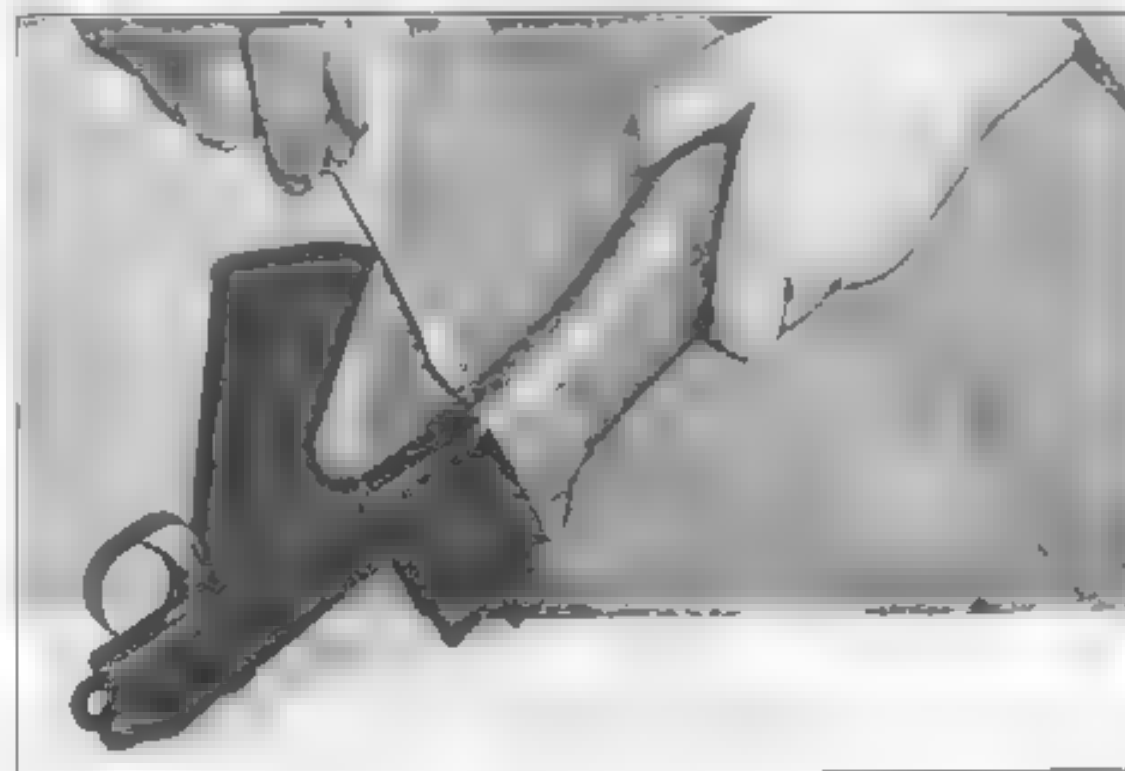
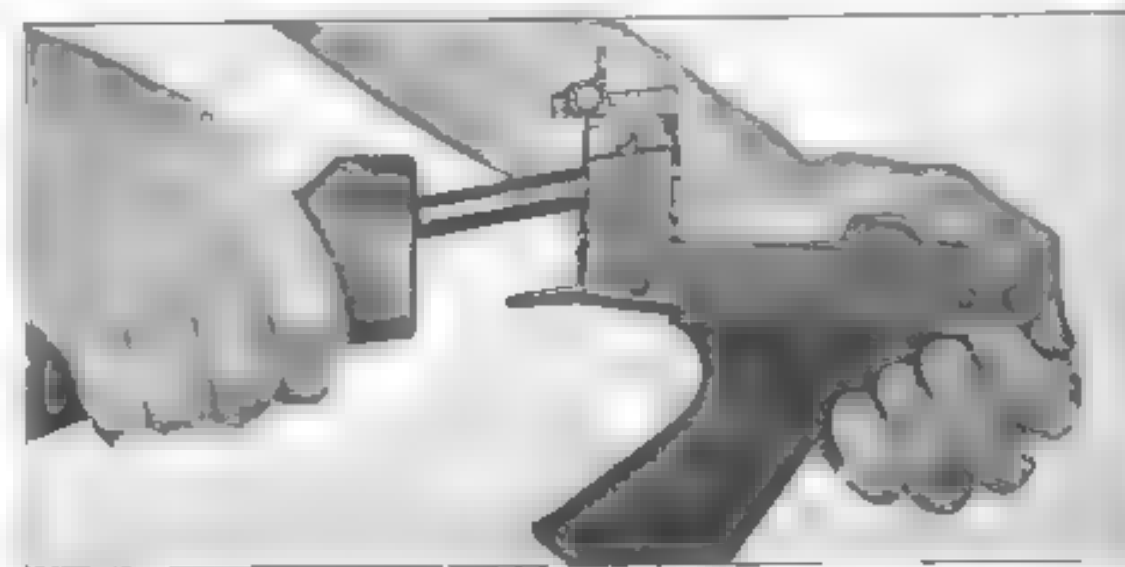

Fig. 116
Fig. 117
b) **Butt stock.** — To remove the butt stock from the trigger frame, unscrew the butt support screw (fig. 116) and separate the butt stock from the frame trigger housing (fig. 117).
- Replace the butt stock on the trigger frame (fig. 117) and screw in the butt support screw (fig. 116).